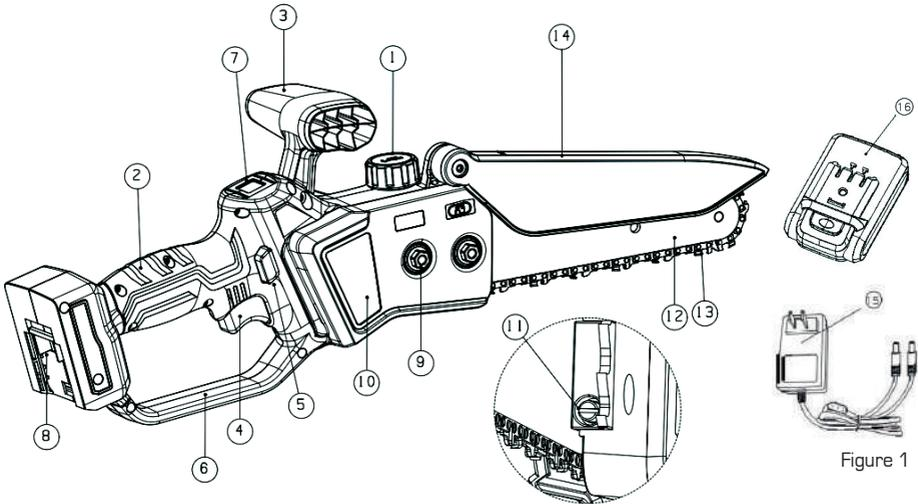

Figure 1
- b) Check the tension of the particular chain #13 (Figure 1), if too slow or too tight proceed with the adjustment as specified in paragraph Q.4
- d) Verify that both of the # 9 Lock Nuts (Figure 1) are properly tightened
- b) Remove the sprocket protection cover, unscrew the two nuts # 9 and remove the sprocket protection plate # 10 (Figure 1)